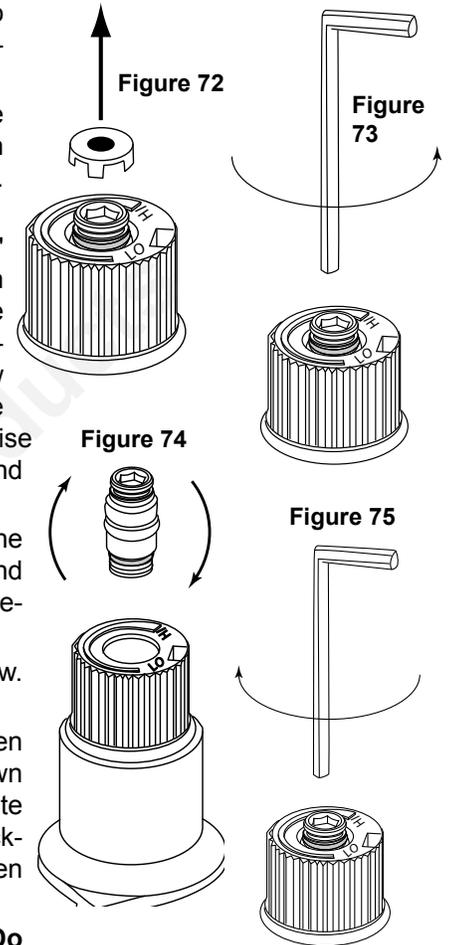

Figure 76
8. Verify that if the conversion is from NG to LP, the screw must be reassembled with the red o-ring visible. (Fig. 76)